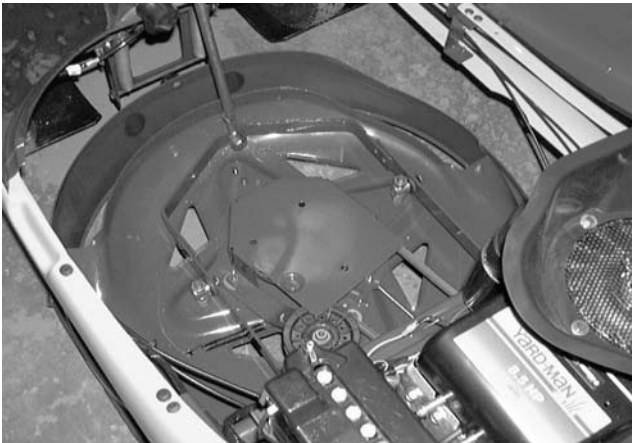

Figure 8-11.
2. Raise the hood and remove the grass bag assembly. See Figure 8-11.